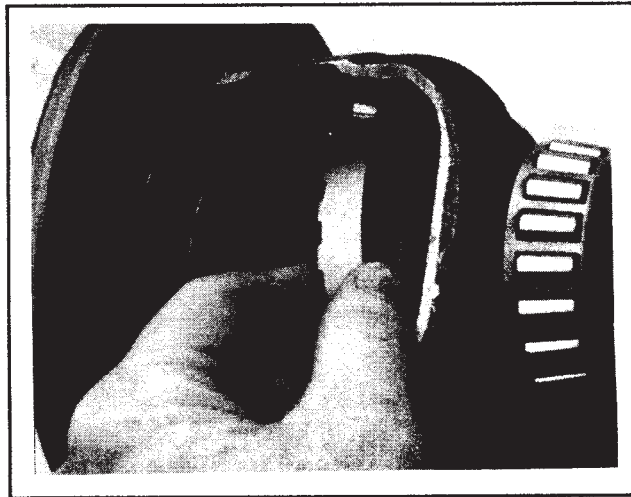

Figure 8
2. Place the second thrust washer onto the other coupler and place the assembly into the other end of the differential case (Figure 8).